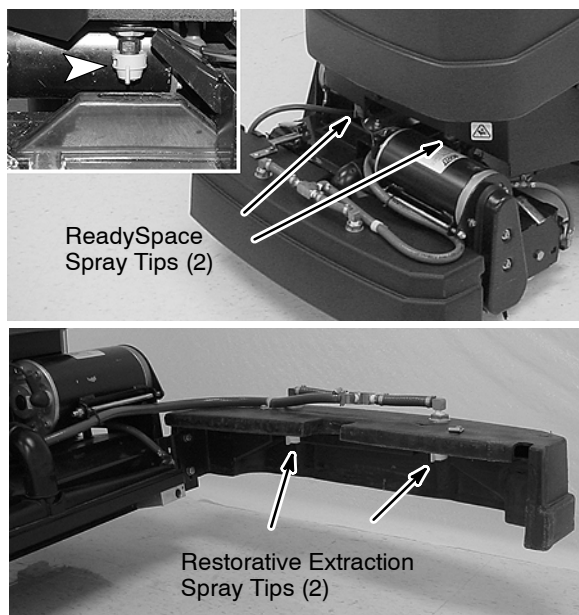
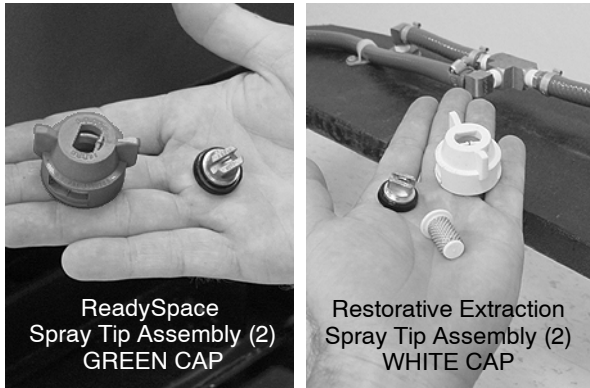

FIG. 35
FIG. 37
6. Inspect the spray tips for proper spray pattern (Figure 35). If spray pattern is obstructed, clean or replace the spray tips (See MONTHLY MAINTENANCE).
3. Remove the four quick-release spray tips from the scrub head (Figure 35). Turn spray tip caps counter-clockwise to remove. Soak the tips and screens in an acetic acid solution for up to six hours (Figure 37). Follow the mixing directions on the bottle. Do not use pointed objects to clean tips, damage will occur.